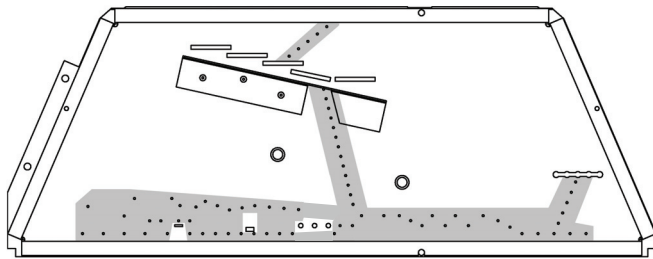

Figure 64 - Rock Wool Placement on Burner.
1. Distribute one layer of rock wool to cover all round burner ports. Do not cover rectangular slots, located in front and rear. *Figure 64*